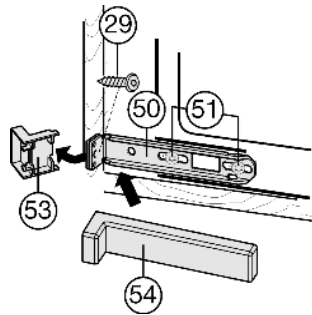

Fig. 20
- ▶ Slightly loosen the screws Fig. 20 (51).
- ▶ Secure the bottom mounting bracket Fig. 20 (50) to the unit wall with a $\varnothing 4 \times 19$ chipboard screw Fig. 20 (29).
- ▶ Break off the protruding end of the cover Fig. 20 (53).
- ▶ Tighten the screws Fig. 20 (51).
- ▶ Place the cover Fig. 20 (54) into position on the bottom mounting bracket Fig. 20 (50).